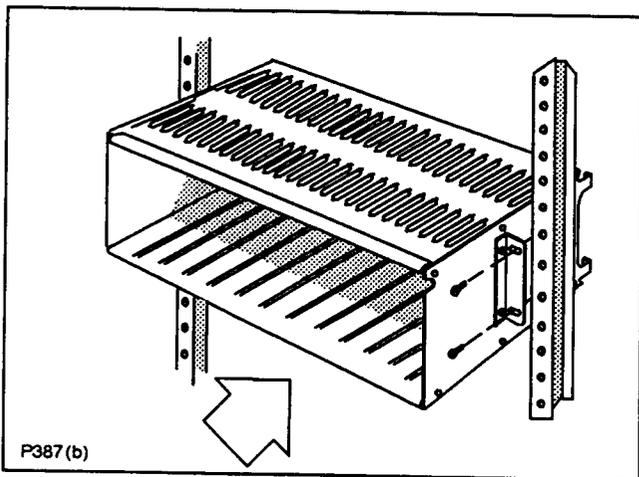

Figure 5. Front Rack Mount
- (a) From the front of the relay rack, position the COT shelf in its relay rack mounting location (Figure 5).